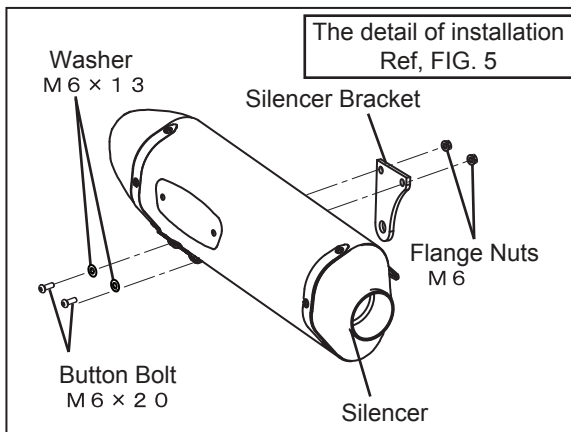

FIG. 4
- 4) Mount Silencer Bracket onto Silencer Assy with 2 of each Button Bolt M6x20, Washer M6x13 and Flange Nut M6 (See Fig. 4, 5). Tighten nuts by hand only at this stage.